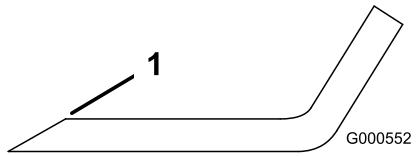

Figure 75
1. Use a file to sharpen the cutting edge at both ends of the blade (Figure 75).
**Note:** If the blade is not balanced, file some metal off the end of the sail area only (Figure 75).